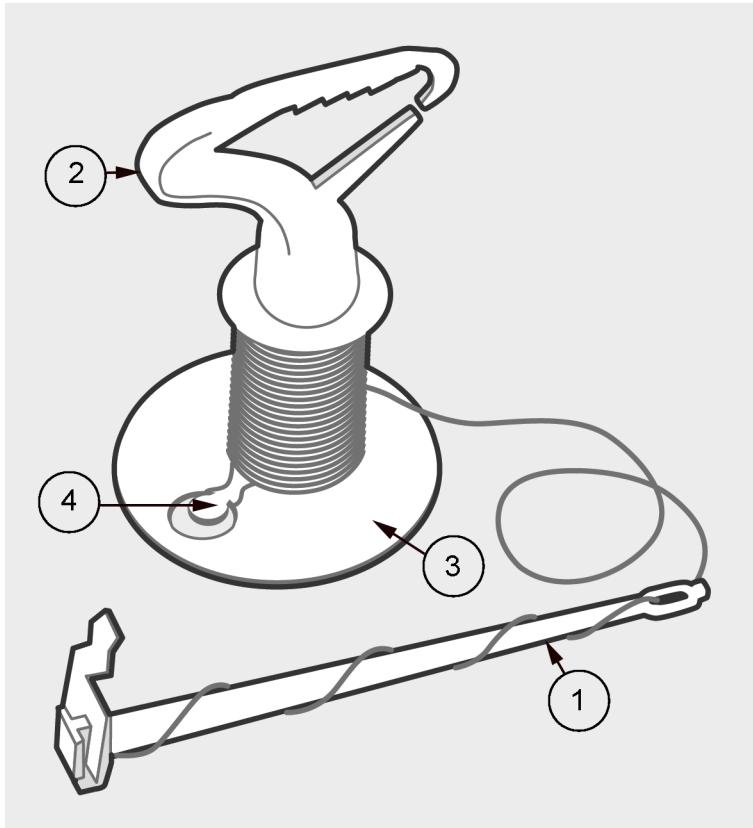

Figure 4 RS41 Unwinder Details
- 1. The unwinder stick (number 1 in Figure 4 \(page 23\)) is attached between two plastic clips in the unwinder hook (number 2). Detach the stick from between the plastic clips and pull it out from the unwinder bottom plate (3).
In the unwinder body, the unwinder string runs under a round plastic clip (number 4 in Figure 4 \(page 23\)) on the bottom plate. This keeps the string attached to the unwinder, and the radiosonde attached to the balloon.